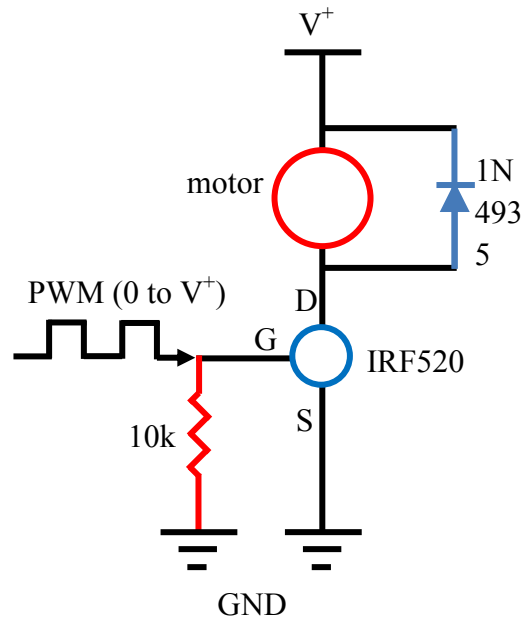

Figure 1: Motor Drive
- Construct the motor speed circuit shown in **Figure 1** using your breadboard and jumper wires. Use the alligator clips to connect the motor leads to the breadboard. Ensure that the kickback diode is in place and the cathode points to the high voltage power rail. Do all circuit construction without the power supply connected.